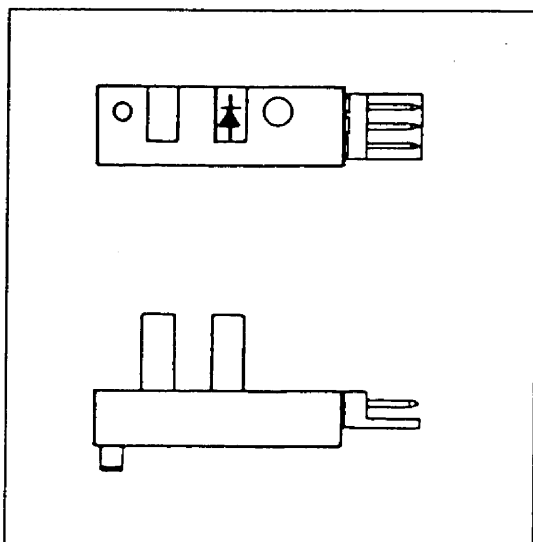

Figure 1
1. The Optical Switch (p/n 500009) is shown in **Figure 1**. There are various models of the previous style optical switches with connections aligned. There is no effective way to identify these previous switches. However, the current, reversed polarity, optical switches can be identified with a marking. ALL NEW OPTICAL SWITCHES, THAT NEED A PC BOARD ADAPTER, WILL HAVE THE WORD "**SHARP**" MARKED ON THEM.